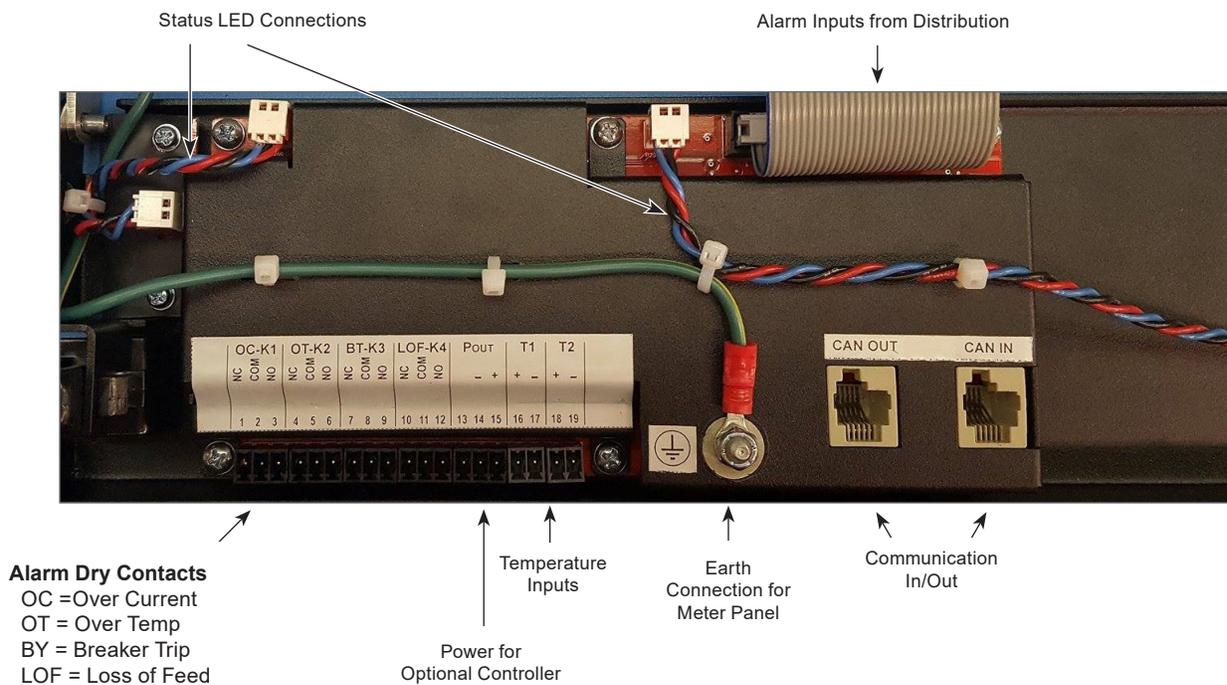

Figure 19 — VI Meter Wiring
1. Locate the terminal block on the inside of the front panel. Refer to Figure 19 and the schematic drawing at the end of this manual for details on terminal block assignments.